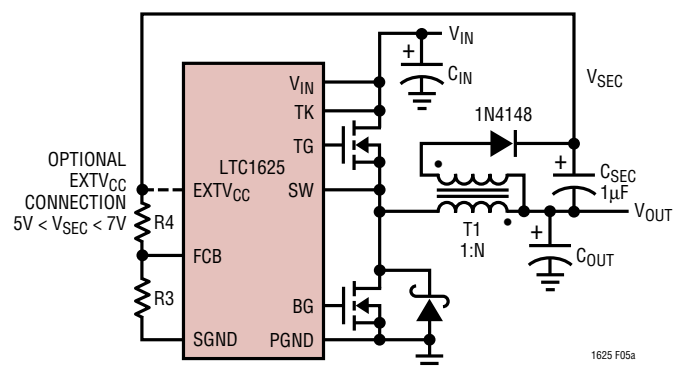
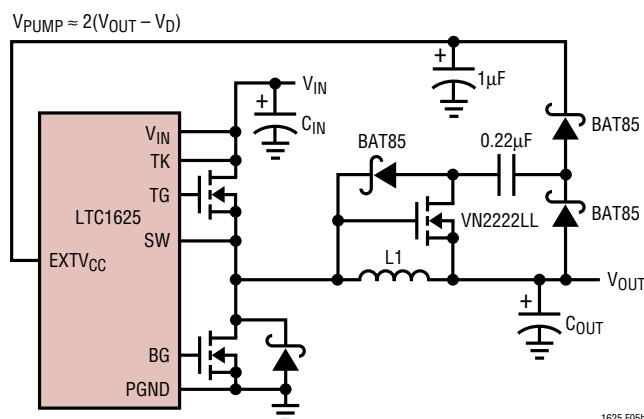

Figure 5a: Secondary Output Loop and  $EXTV_{CC}$  Connection
Figure 5b: Capacitive Charge Pump for  $EXTV_{CC}$
3.  $EXTV_{CC}$  connected to an output-derived boost network. For 3.3V and other low voltage regulators, efficiency gains can still be realized by connecting  $EXTV_{CC}$  to an output-derived voltage which has been boosted to greater than 4.7V. This can be done with either an inductive boost winding as shown in Figure 5a or a capacitive charge pump as shown in Figure 5b.
The secondary output voltage  $V_{\text{SEC}}$  is normally set as shown in Figure 5a by the turns ratio  $N$  of the transformer: